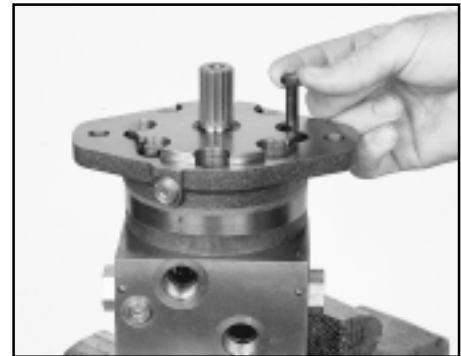

Figure D2
2. Remove the 8 5/16-24 bolts (1) SEE FIGURES D2.